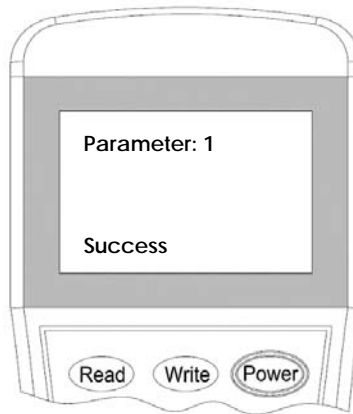

Figure 8
4. Input the **"1"** then press **"Write"** to change the setting (Figure 8) and LED will turn-off. To resume the default setting, press **"Clear"** and then press **"Write"**.